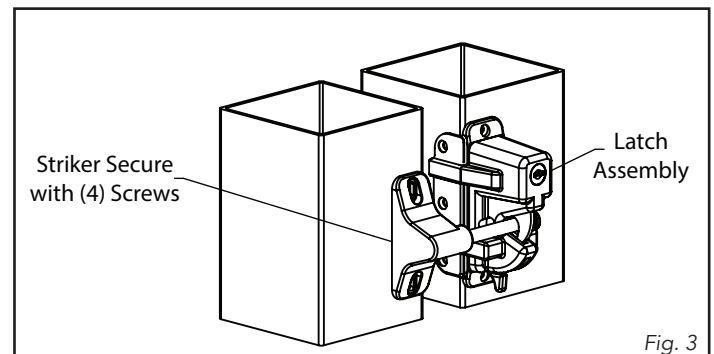

Fig. 3
3. After installing the latch assembly, position and attach the striker. With the gate closed, position the striker with the striker rod within the latch assembly, behind the latch mechanism (Fig. 3). Mark the center-points of the (4) mounting holes, and drill appropriate pilot holes for mounting screws. Realign latch and striker, attach to post with the supplied screws.